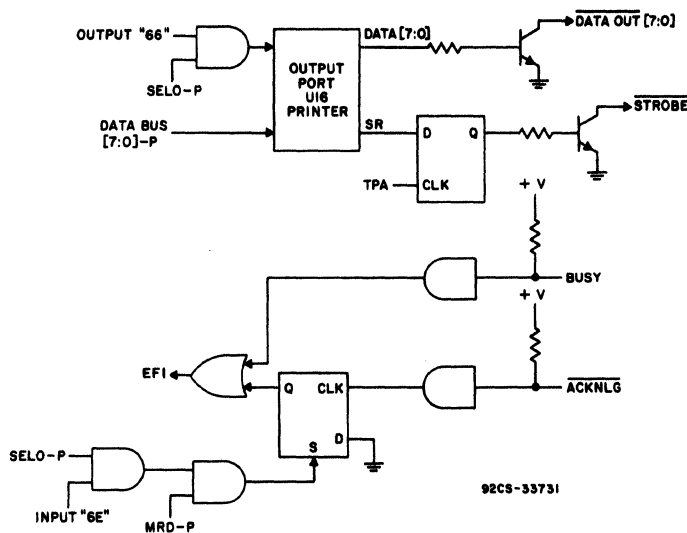

Fig. 2 - RCA COSMAC Microboard Parallel I/O Interface Module - Block Diagram of Printer Interface Logic.
The block diagram for the printer-interface logic is given in Fig. 2. When communications between the CPU and a printer or floppy-disk drive unit is required, the system software issues an OUT 1 (61) command whose data is 0000 0010 in order to select the CDP18S646. This